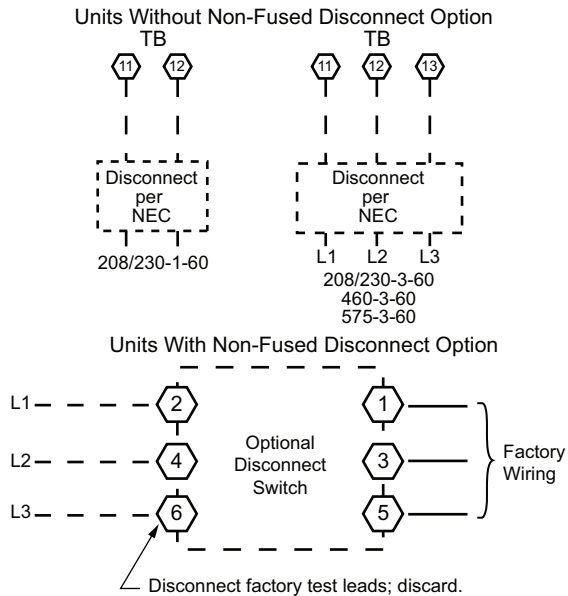

Fig. 26 — Power Wiring Connections
The field power wires are connected to the unit at line-side pressure lugs on compressor contactor C (see wiring diagram label for control box component arrangement) or at factory-installed option non-fused disconnect switch. Maximum wire size is No. 2ga AWG (copper only) per pole on contactors and No. 2ga AWG (copper only) per pole on optional disconnect. See Fig. 26 and unit label diagram for field power wiring connections.
The factory-installed option non-fused disconnect (NFD) switch is located in a weatherproof enclosure located under the main control box. The manual switch handle and shaft are shipped in the disconnect enclosure. Assemble the shaft and handle to the switch at this point. Discard the factory test leads (see Fig. 26).
All field wiring must comply with NEC and all local codes. Size wire based on MCA (Minimum Circuit Amps) on the unit informative plate. See Fig. 26 and the unit label diagram for power wiring connections to the unit power terminal blocks and equipment ground. Maximum wire size is No. 2ga AWG (copper only) per pole on contactors. See Fig. 26 and unit label diagram for field power wiring connections.
2. Install power lines to terminal connections as shown in Fig. 26 on page 18.